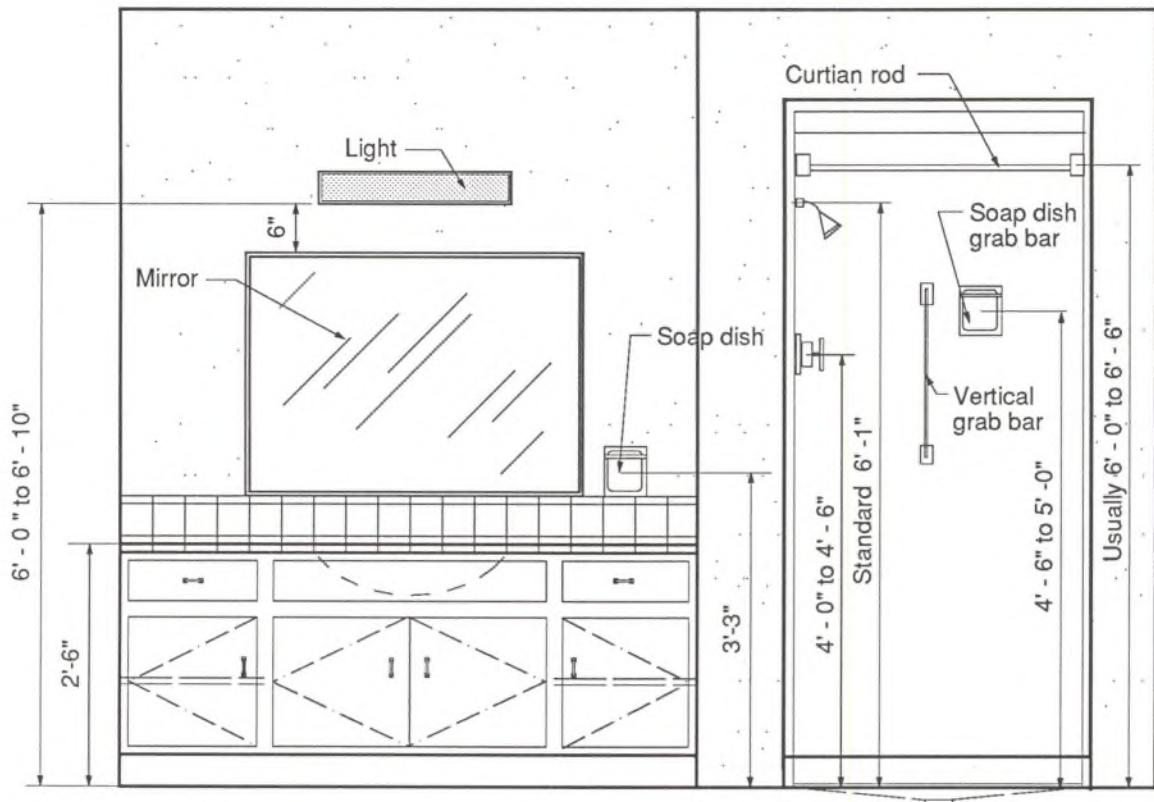
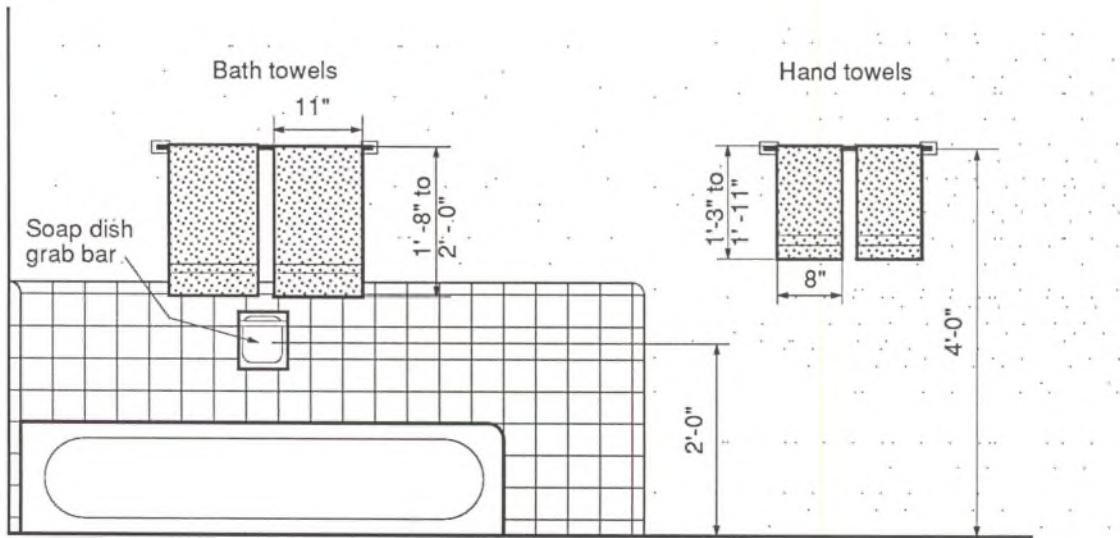

Fig. 8.17 Typical hardware measurements.
Fig. 8.18 Typical towel bar measurements.
2. In the basin area, draw a soap dish, cup/tooth-brush holder, and medicine cabinet. Use typical measurements as in Fig. 8.17.
3. Fig. 8.17 shows correct placement of hardware in the shower area.
4. Fig. 8.18 shows correct placement of a soap dish and optional towel bar in a bathtub area. When drawing a bathtub with a shower over the tub, extend the tile or other waterproof material to a height of not less than 6' from the floor. Height of the shower head is as shown in Fig. 8.17.